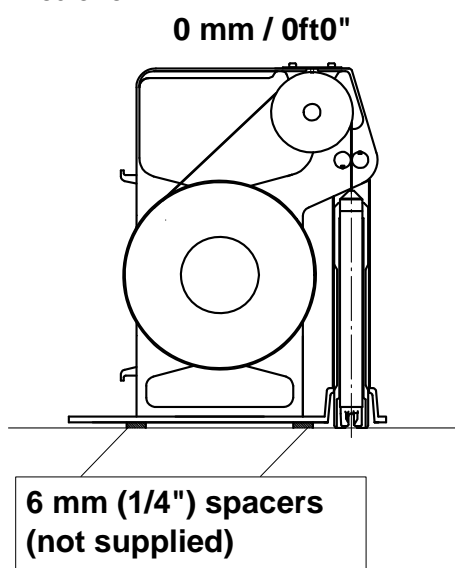

Figure 8-13
- gently lower the tape until the sensor gets in contact with the surface (Figure 8-13);